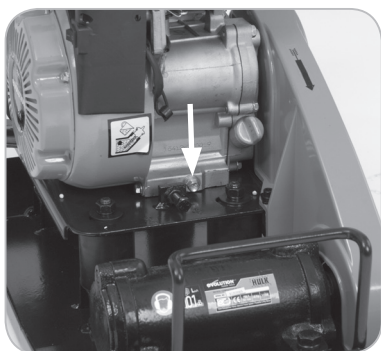

Fig. 12
- Remove the oil drain plug so that the oil can drain completely from the engine. (**Fig. 12**)